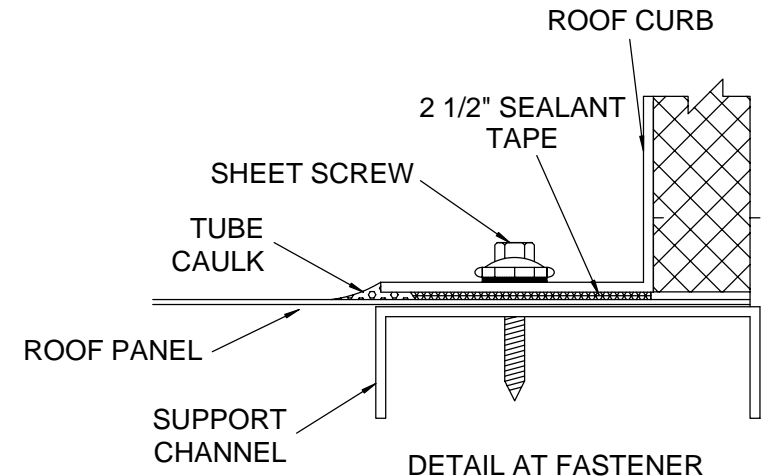

FIGURE 12
1. Over/Over installation sample. (fig. 12)